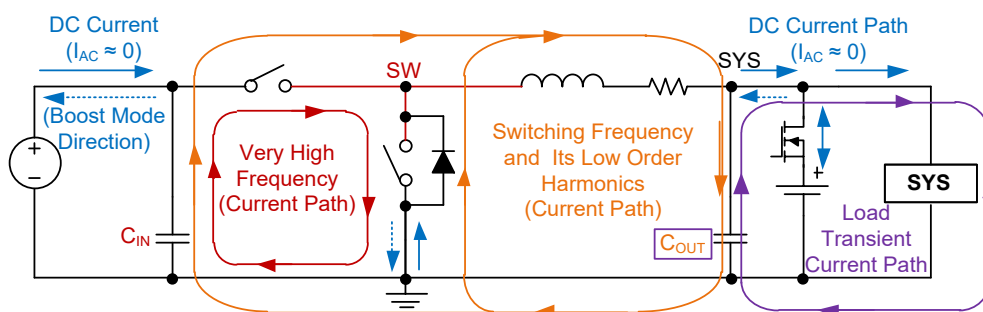

Figure 19. The Paths and Loops Carrying High Frequency, DC Currents and Very High Frequency (for Layout Design Consideration)
The switching node (SW) creates very high frequency noises, which are several times higher than  $f_{SW}$  (1.5MHz) due to sharp rise and fall of the voltage and current in the switches. To reduce the ringing issues and noise generation, it is important to design a proper layout for minimizing the current path impedance and loop area. A graphical guideline for the current loops and their frequency content is provided in Figure 19. The following considerations can help to make a better layout.